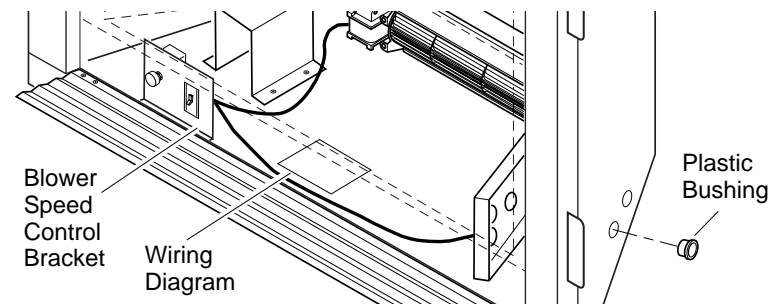

Figure 33 - Installing Plastic Bushing and Wiring Diagram Sticker
- a. If your fireplace system is installed as a freestanding unit with an accessory mantel, determine whether the power cord will exit the left side or the right side of the firebox. Install one plastic bushing provided into the 1 1/2" hole in the outer casing through which the power cord will exit. Install the second plastic bushing provided into the floor support bracket if exiting through the right side (see Figure 33). Route power cord through (both) plastic bushing(s) and plug the power cord into a properly grounded 3-prong wall receptacle near the firebox.
10. Peel off the backing paper and stick the supplied wiring diagram decal on the firebox bottom approximately 3" to the right of the blower speed control bracket (Figure 33).